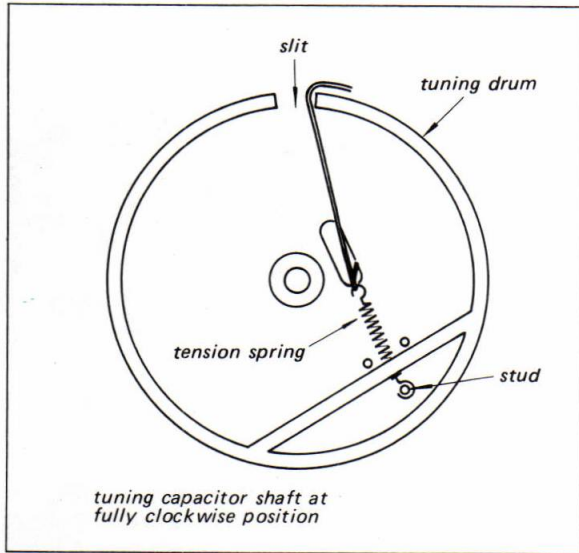

Fig. 2-6. Tension spring installation
3. Rotate the tuning capacitor shaft fully clockwise (minimum capacitance position) and the slit of the tuning drum should be positioned as shown in Fig. 2-6.
1. Tie the end of the cord to a spring and hook the spring to the stud on the tuning drum as shown in Fig. 2-6.